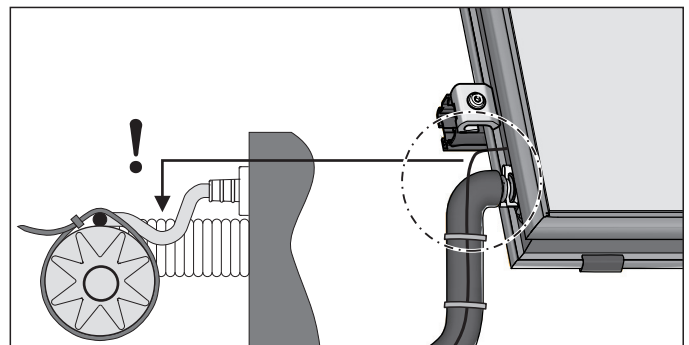

Fig. 4-24 Step 3
- When securing the cable, make sure that no rainwater can run down the cable to the sensor well (installing with drip-off elbow, see fig. 4-24).